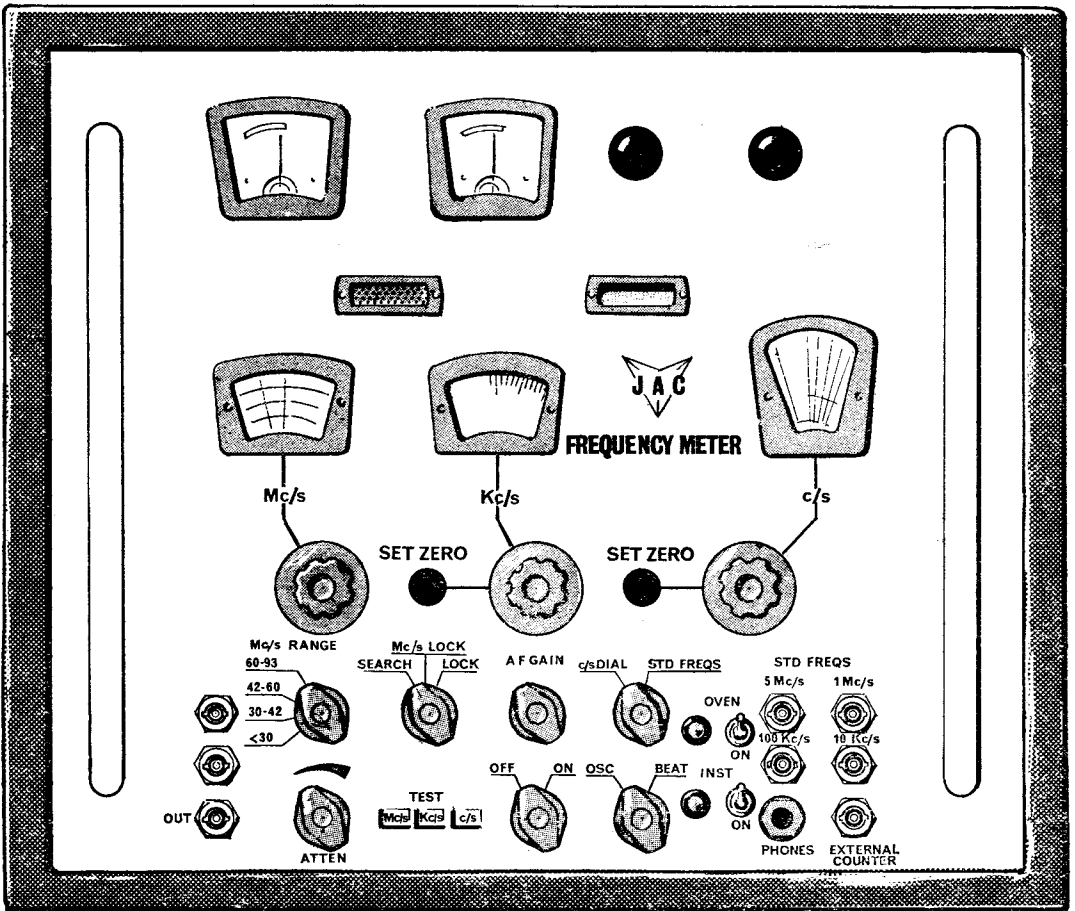

Fig. 10. Frequency meter CT551
26. The most accurate method of measuring frequency is to compare the unknown frequency with one of the standard transmitted frequencies such as Droitwich. This may be done directly or by using an extremely stable oscillator (or frequency synthesiser) as a transfer standard. Equipments capable of this type of measurement are really beyond the scope of this book, but an example has been included for the sake of completeness and is illustrated in figure 10.